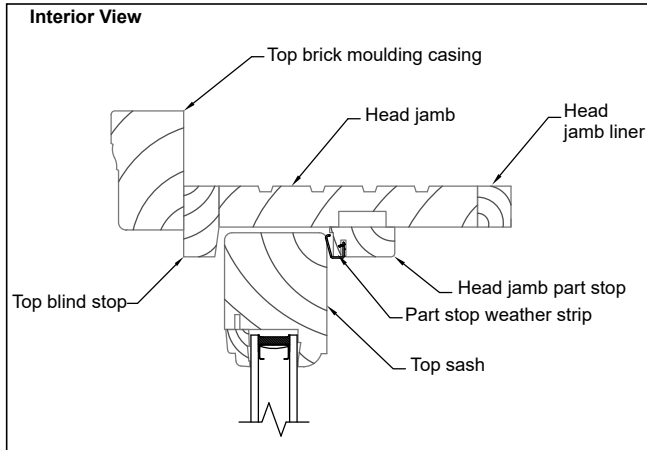

Figure 11
- Place part stop into the head jamb with weather stripping facing exterior of building. Use small finishing nails (not included) to fasten, nailing through the part stop into the head jamb. See figure 11.